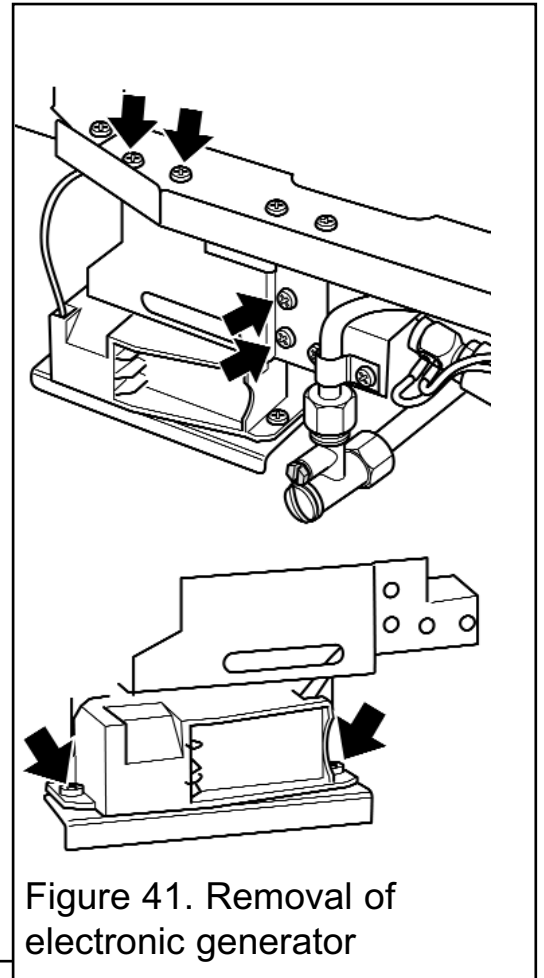

Figure 41. Removal of electronic generator
5. Unscrew the four support bracket screws (See figure 41). The generator and its support bracket can now be moved forward. Be careful not to apply tension to the microswitch leads.
6. Remove the two fixing screws that attach the generator unit to the support bracket. The igniter generator can now be removed (See figure 41)